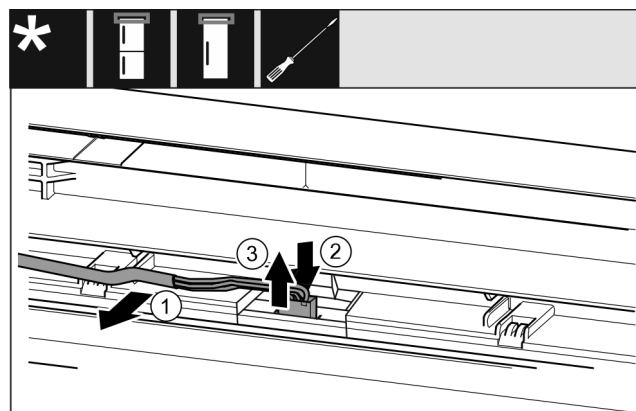

Fig. 21 Fridge/freezer combinations/freezers/cooling units
- Carefully loosen the cable *Fig. 21 (1)* from the guide in the door.
- Press back the tab *Fig. 21 (2)* behind the plug.
- Pull the plug *Fig. 21 (3)* upward carefully.